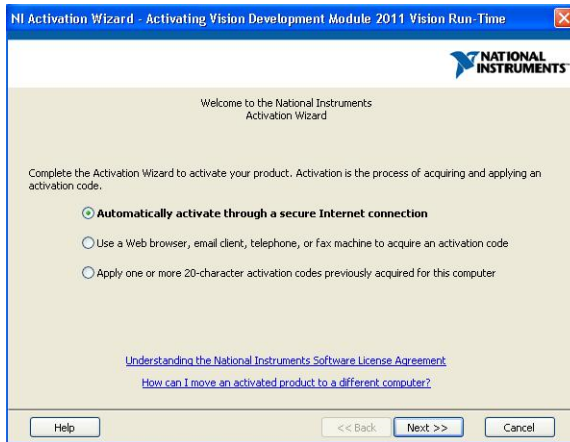

Figure 8. Options for vision module license activation.
6. In the NI activation wizard screen, select the first activation option (Automatically activate through a secure internet connection) and click on *NEXT* (Fig. 8)